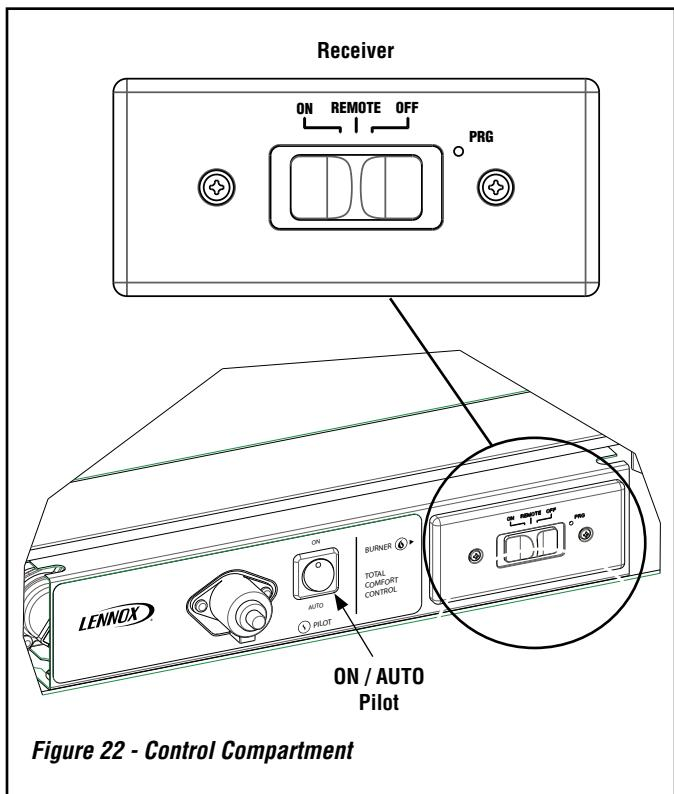

Figure 22 - Control Compartment
Place the 3 position slider switch in the "Remote" position (see **Figure 22**). Using the end of a paper clip, or other similar object, insert the end of the paper clip into the hole marked "PRG" on the Receiver front cover. The Receiver will "beep" three (3) times to indicate that it is ready to synchronize with the Remote (transmitter).
Note: The blower can be controlled only by the remote. Turning the appliance off with the unit mounted three position slider switch (**Figure 22**) will NOT turn off the blower. To turn off the blower, use the remote in lieu of or prior to shutting the appliance off at the three position slider switch (**Figure 22**).